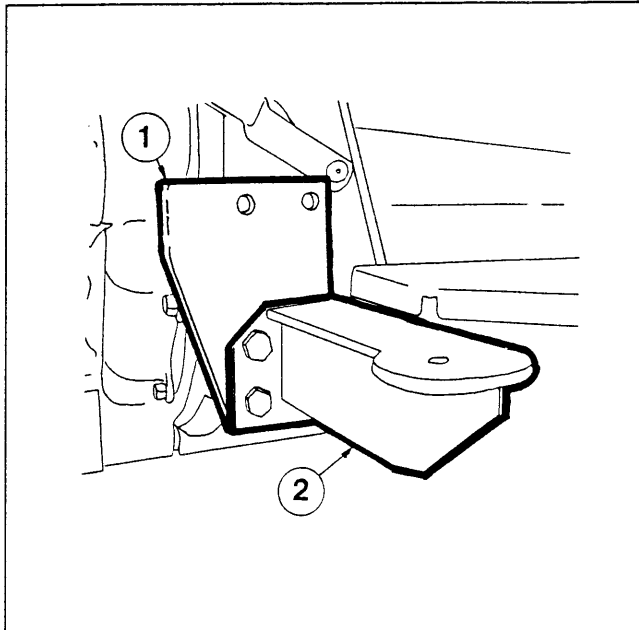

Figure 1
3. Take one of the front bracket spacers (1) and position it against the lower four-hole bolt pattern on the left side of the engine housing, with the top pointing forward. (see figure 1)
4. Take the left front bracket (2) and position it against the four-hole bolt pattern in the spacer or loader subframe, with the ROPS mounting plate to the front and outside. Loosely bolt the bracket, through the spacer or subframe, to the engine housing using the 16x45x1.5mm hex bolts and 5/8" lockwashes provided. (see figure 1)